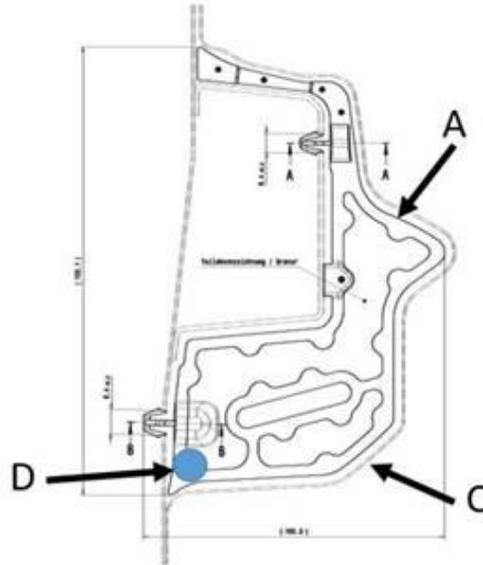

Figure 7. 8mm – 10mm hole to be made through the sound absorber.
7. Figure 7 shows a drawing of the sound absorber. The blue dot marked 'D' corresponds with a point through which a hole 8mm – 10mm in diameter will be made. This hole will allow for a normal flow of any accumulated water to reach the normal drainage and exit the sill cavity. The method for creation of this hole follows.
9. Guide the heated rod into opening number 4 from Figure 3 and melt a hole in the sound absorber in position 'D' from figure 7 (Figure 9).